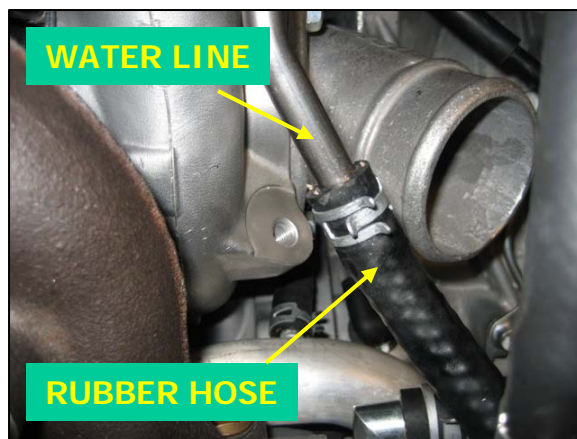

Fig. 13
15. Find the hard steel water line that connects to the rear of the turbocharger's center housing (facing firewall). Remove it, along with its banjo bolt, copper crush washers, and mounting bolt. Disconnect the rubber hose. These parts will be reused, except for the crush washers. The hard line will be transferred to the Garrett turbocharger in step 31, using the original banjo bolt and new copper crush washers supplied in kit (1 banjo bolt, 1 bracket bolt, 1 clamp, pliers, 10mm & 17mm sockets). See figure 13.